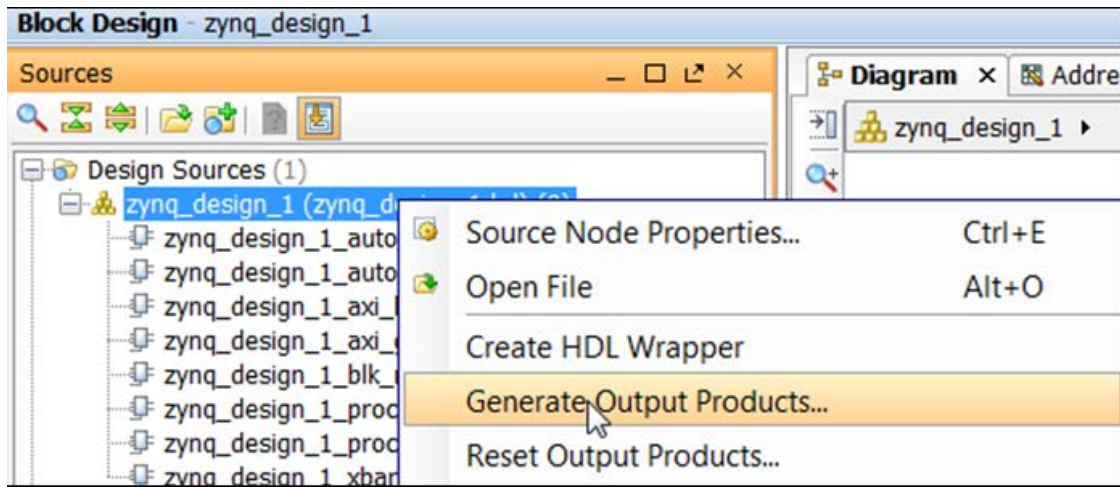

Figure 26: Generate Output Products Option
1. In the Source window, right-click on the top-level subsystem design, and select **Generate Output Products** (Figure 26). This action generates the source files for the IP used in the block diagram and the relevant constraints file.